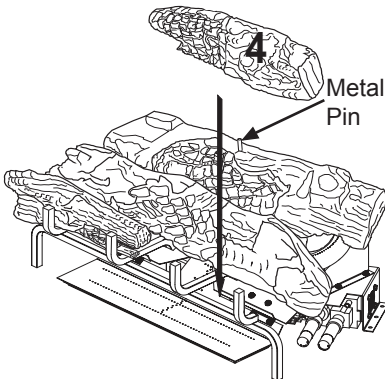

Figure 31- Installing Log # 4
4. Place the front right log (#4) onto the base assembly between the middle log and the grate. The back of the front right log will rest against the front of the middle log. The notch in the end of the front right log will fit around the grate bar. See Figure 31, page 20.